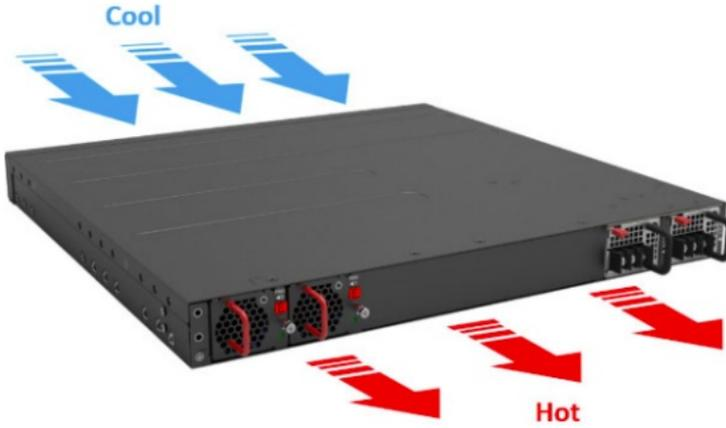

Figure 3.
• **Cooling:** The S6301-56ST has two options for airflow direction. There is a back-to-front option (Figure 3. Left) and a front-to-back option (Figure 3. Right). Make sure the equipment on the same rack have the same airflow direction.